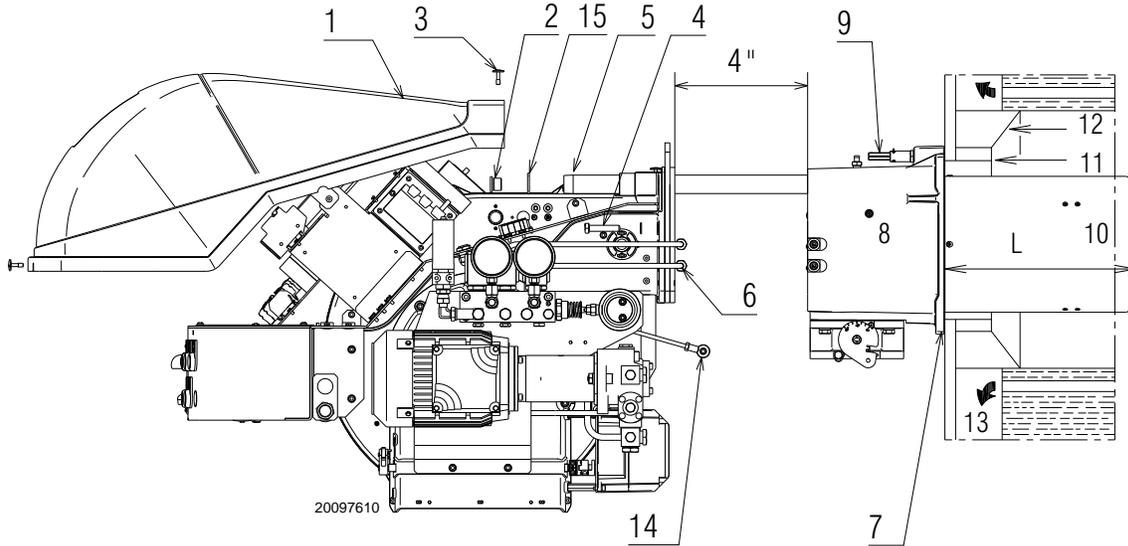

Fig. 12
For boilers having a water-cooled front, the insulation 11)-12) (Fig. 12) is not required unless it is required by the boiler manufacturer.
Detach the combustion head from the burner, (Fig. 12):
- Refit the burner to the slide bars 3) (Fig. 22) at approximately 4" from the sleeve 4) - burner positioned as shown in (Fig. 12, page 18) - insert the ignition electrode cables.
- refit screws 2) (Fig. 22) on slide bars 3) including the safety plate 15) Fig. 12, page 18;
- connect the oil pipes again by screwing on the two connectors 6) (Fig. 12, page 18).